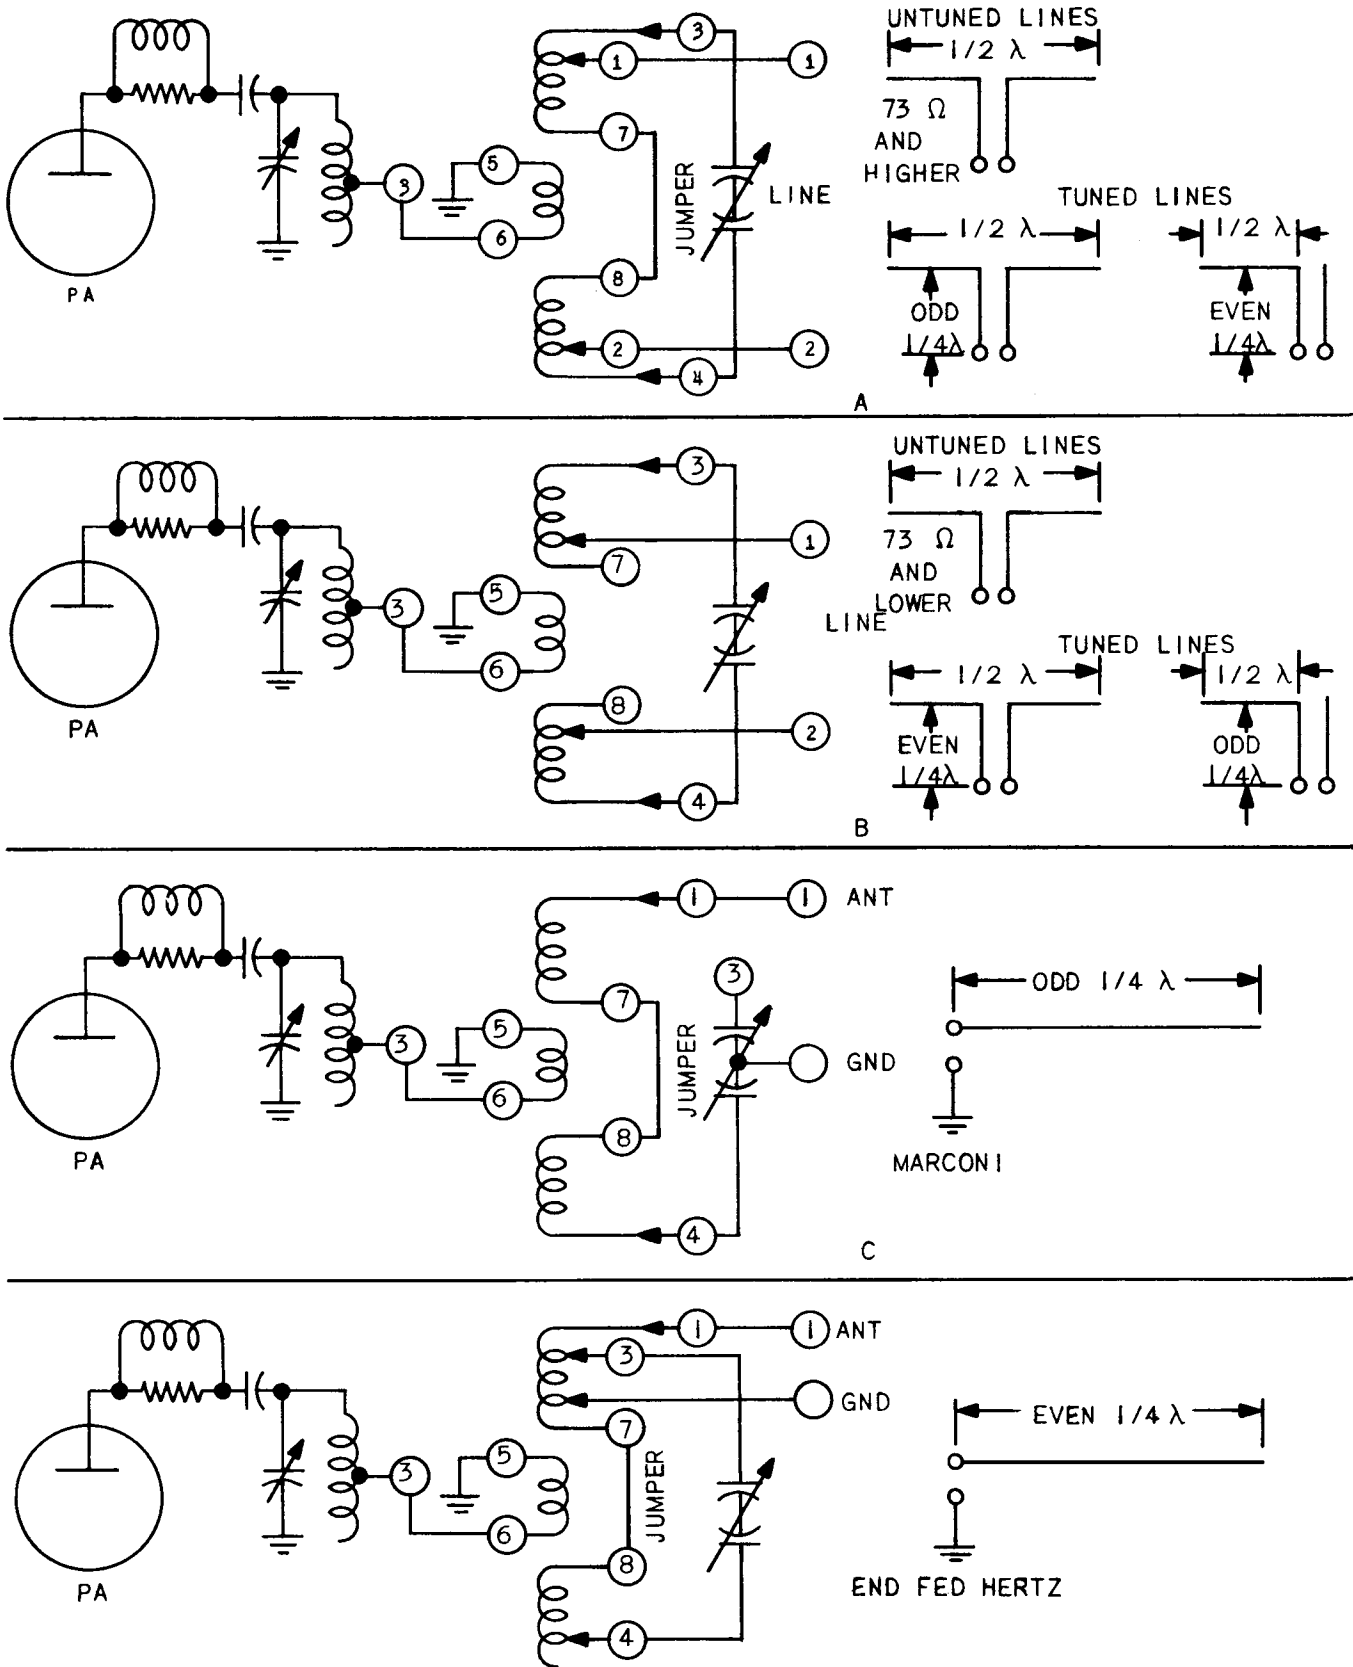

Figure 3-2 Typical Antenna Tuner Circuits
(1) 310B-1. - 52 to 75 ohm impedance coaxial or twin line preferred. Connect to terminals 10 and 11 on E101 at the rear of the unit. If pi network output is desired, remove the jumper between 12 and 13 on E101, connect a 400 mmf variable capacitor from 12 to 13 (rotor on 13). Connect antenna to 12, ground to 13. When using pi network to feed coaxial transmission lines, connect inner conductor to 12, outer conductor to 13. Start with the 400 mmf capacitor set at maximum capacity. Decrease capacity to increase antenna loading.
(2) 310B-3. - Same as for 310B-1 when the antenna tuner is not used. In this case, remove the antenna coil. When used with the built-in antenna network, remove the jumper from terminals number 12 and 13 on E101. The antenna should be connected to terminals 1 and 2 on J201 (push posts next to the antenna coil). See paragraph 3.1.4. and figure 3-2 for antenna tuner operation.
(a) UNTUNED HIGH IMPEDANCE TRANSMISSION LINE. - If the line has a characteristic impedance of 73 ohms or more, parallel tuning of the antenna coils L201A and L201B should be employed. For parallel tuning, the jumper bar seen above the antenna coils should be closed. The transmission line taps should be set on the same turns as the capacitor taps to start with, then varied towards the center of the coils until proper loading is obtained. The transmission line taps are those at the bottom of the coils while the antenna tuning capacitor taps are those nearer the top. In this type of operation, low values of capacitance and high values of inductance for the operating frequency generally are best. See illustration A, figure 3-2.
(b) UNTUNED LOW IMPEDANCE TRANSMISSION LINES. - Transmission lines having a characteristic impedance of less than 50 ohms require series tuning of the antenna coils. This is done by opening the jumper bar above the coils and moving the transmission line tap arms to the inside coil turns. The capacitor taps should be set at the outside turns and varied towards the inside turns until proper loading is obtained. Higher values of tuning capacity usually work out best in this type of operation. See illustration B, figure 3-2.